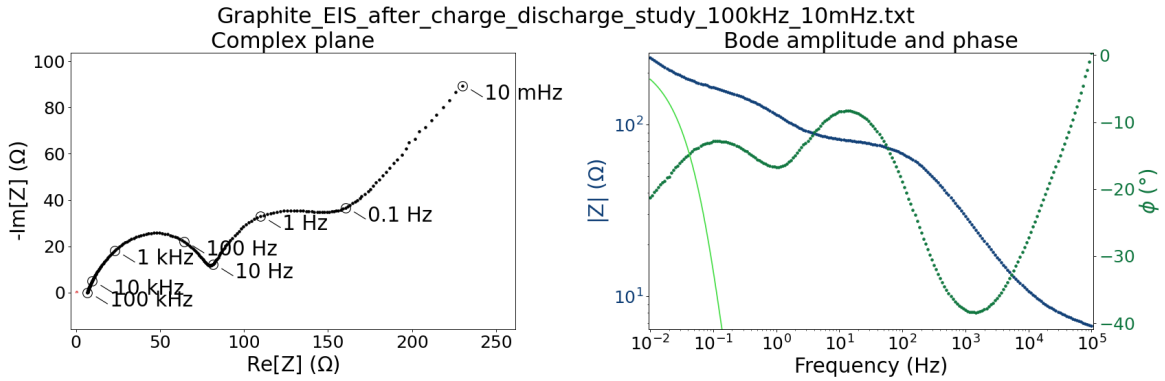

Figure 22: Impedance spectrum of a graphite||lithium half-cell.
3. Because the spectrum is quite complex, it is useful to get an impression of the characteristic frequencies of the features. Selecting **Plot>Mark frequencies that are integer powers of 10** results in Figure 22.